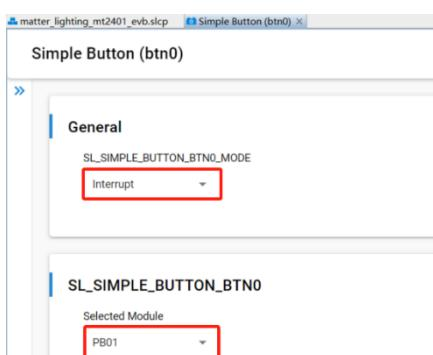
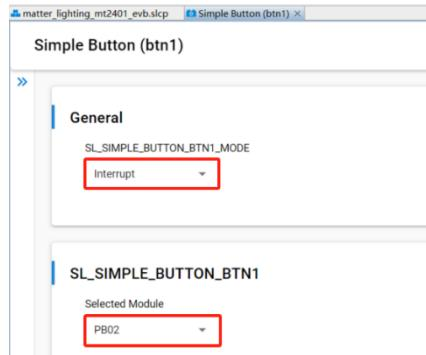

Figure 5.13
Figure 5.14
- 1) In "Platform -> Driver -> Button -> Simple Button" component, click btn0 or btn1 to open the button configuration window, as shown in figure 5.13 and figure 5.14.